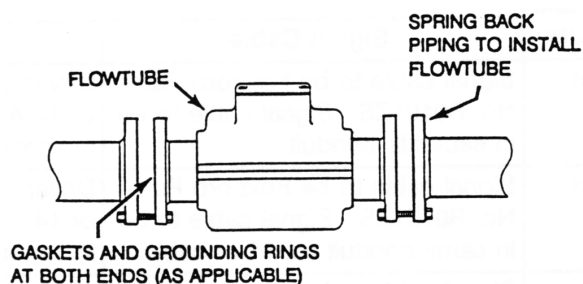

Figure 15. Installing Flowtube into Pipeline
- b. Refer to Figure 15. Spring back the piping to allow clearance as necessary to insert the flowtube without causing damage to its lining.